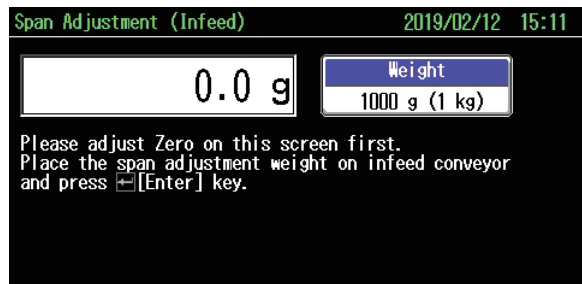

Fig. 6-198
▶ The Span Adjustment Menu for In feed conveyor ("Fig. 6-198") is displayed.